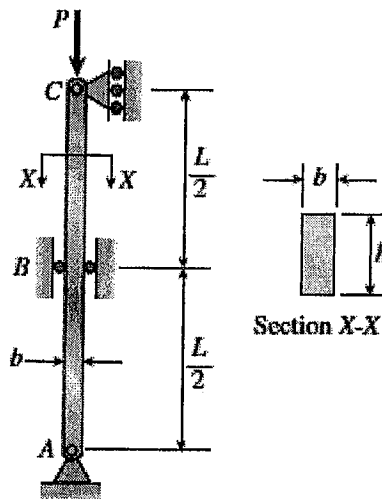

Fig.Q01
1. A rectangular column with cross-sectional dimensions b and h is pin-supported at ends A and C (see Fig.Q01). At mid-height, the column is restrained in the plane of the figure but is free to deflect perpendicular to the plane of the figure. Determine the ratio h/b such that the critical load is the same for buckling in the two principal planes of the column.